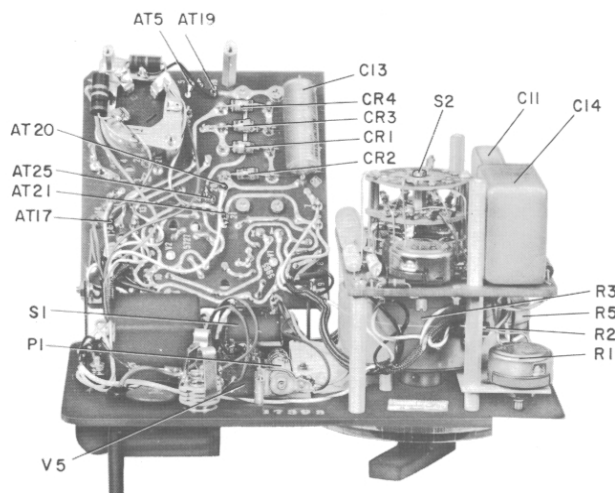

Figure 4-1. Side internal view of Type 1531-AB stroboscope with etched board swung open.
der the INPUT jack, and pivot the etched board containing the power transformer away from the panel (see Figure 4-1). To avoid damage to parts, do not allow the etched board to swing free.
If the stroboscope continually blows fuses (see Figures 4-1, 4-2, and 4-7):
- b. If the strobotron lamp flashes at the same rate on all three speed ranges regardless of the RPM dial setting, potentiometer R3 (see Figure 4-1) is probably open-circuited.
If the stroboscope flashes, but the CAL indicator lamp remains extinguished when the HIGH CAL and LOW CAL settings are adjusted (see Figures 4-1 and 4-2):
If the stroboscope cannot be calibrated by following the instructions given in Section 2, OPERATING PROCEDURE, see Figures 4-1 and 4-2, and check the following:
In the following steps, the calibration settings are those to be used with a 60-cycle motor; if a 50-cycle motor is used, obtain corresponding settings from Table 4-1 or multiply these settings by 5/6. If the 6:1 ratio between frequency ranges is not correct within 1%, see Figures 4-1 and 4-2 and proceed as follows: